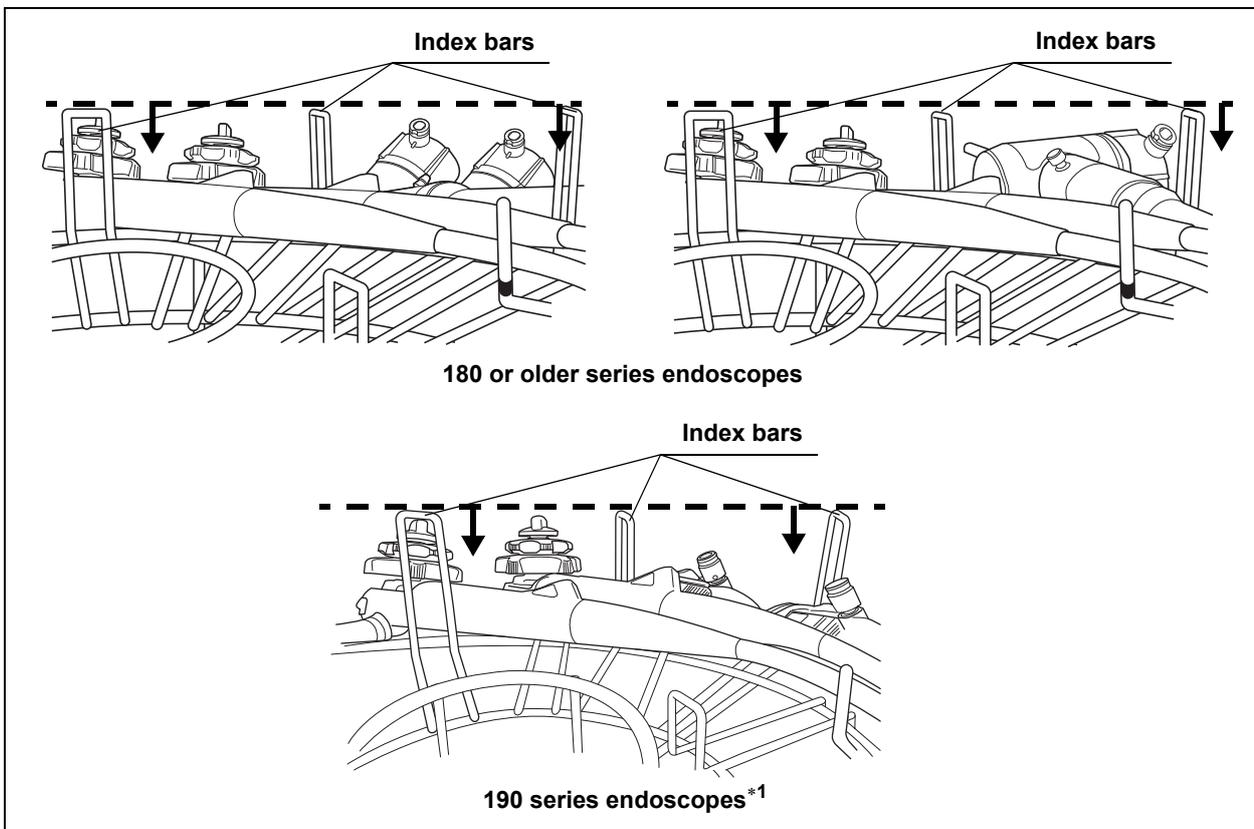

Figure 4.24
7. Make sure that the endoscope is located below the index bars that mark the disinfectant liquid level (see Figure 4.24).